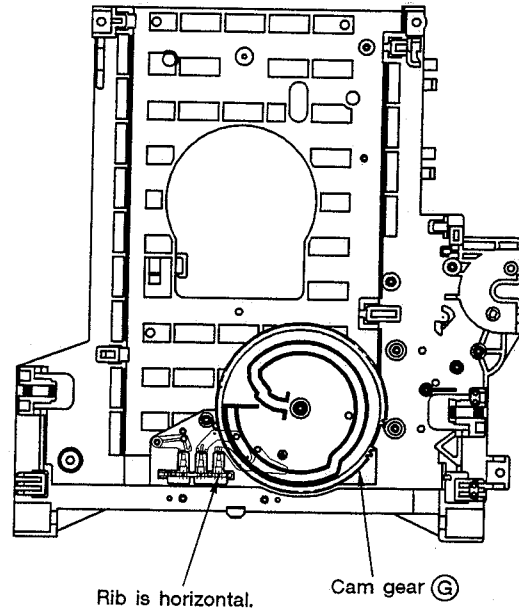

Fig. 1-9
2. Insert the cam gear ③ upon directing the rib horizontally as shown in Fig. 1-9.